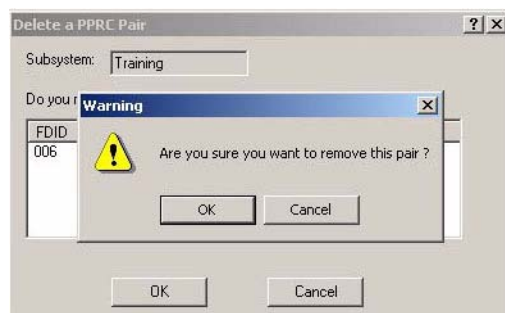

Figure 25 Confirmation Box
- The confirmation box of Figure 25 appears. If this is still the desired action, left-click on “Ok.”